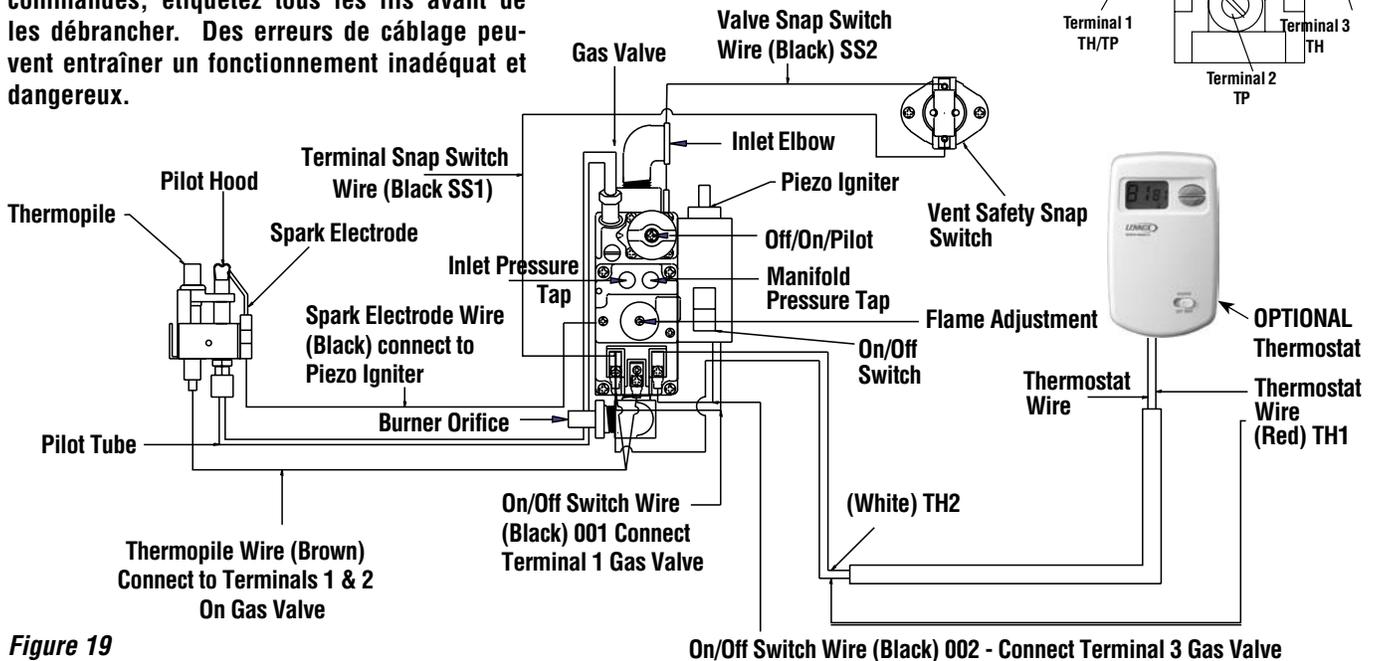

Figure 19
To check for proper operation, use a multimeter and perform the system checks shown in **Table 4** (and refer to **Figure 19**).
- See Millivolt Control Schematic (Figure 19) for information on thermostat and On/ Off switch.